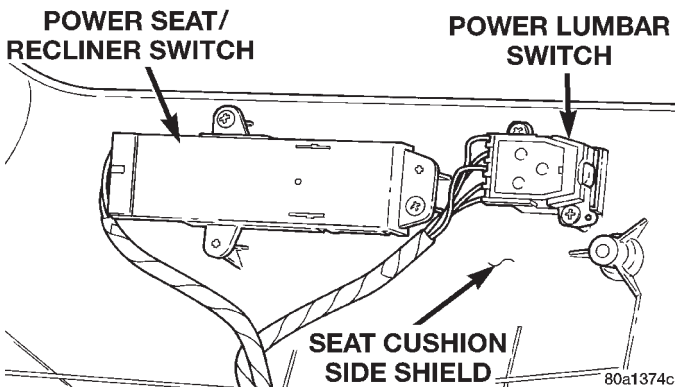

Fig. 3 Power Seat Switches Remove/Install
(1) Disconnect and isolate the battery negative cable.
(2) Using a trim stick or other suitable wide flat-bladed tool, gently pry the power seat and power recliner switch knobs off of the switch stems.
(3) Remove the three screws securing the seat cushion side shield to the seat cushion frame.
(4) Pull the side shield away from the seat cushion far enough to unplug the switch wiring connector.
(5) Remove the two screws securing the switch to the inside of the side shield (Fig. 3).